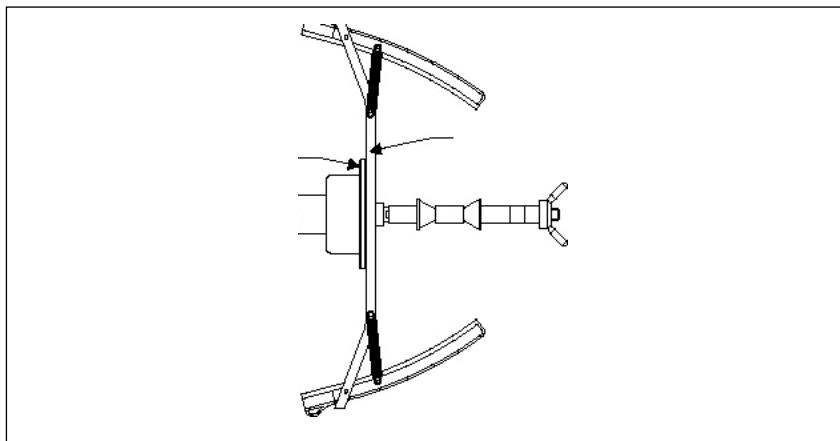

Fig. F4.1 Arranging the motorcycle tire fixture on the balance shaft. Align the threaded fixing holes on the fixture with the fixing holes on the balance shaft.
- 2) Arrange the motorcycle tire fixture on the balance shaft as shown in Fig. F4.1.